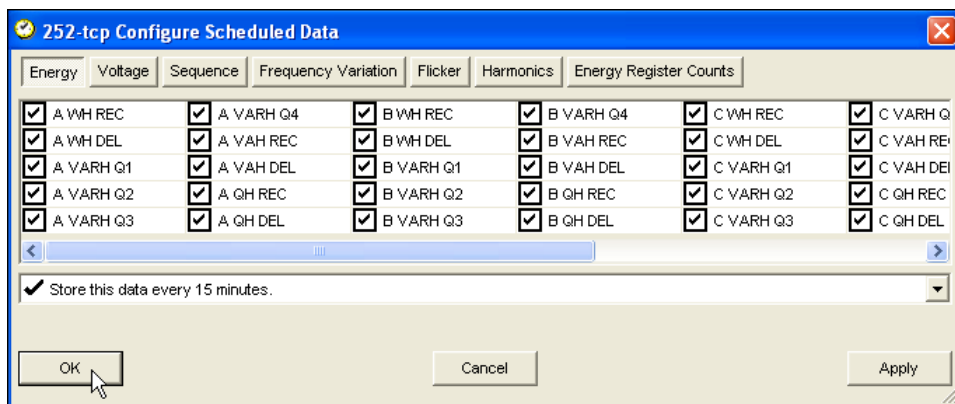

Figure 7.20: Configuring Scheduled Data Screen
2. From the main menu, select Connection > Configure > scheduled Data or click the Configure scheduled button to access the configuration window shown in Figure 7.20.